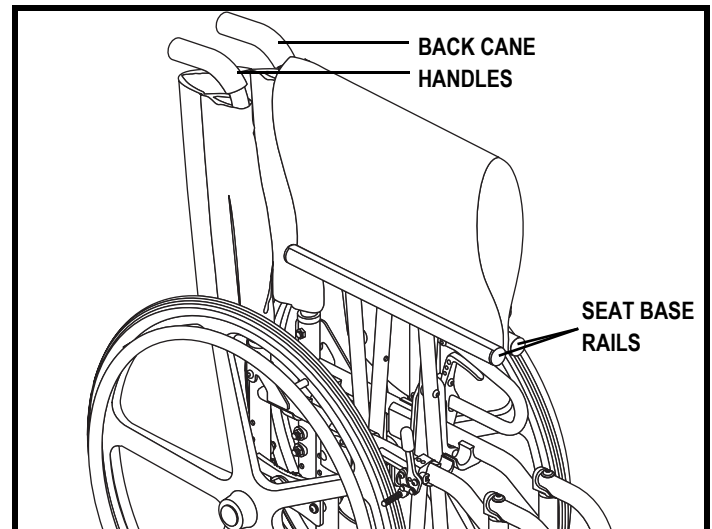

Figure 10. Lifting Points
3. With one hand, grab and squeeze together both back cane handles. See figure 10.